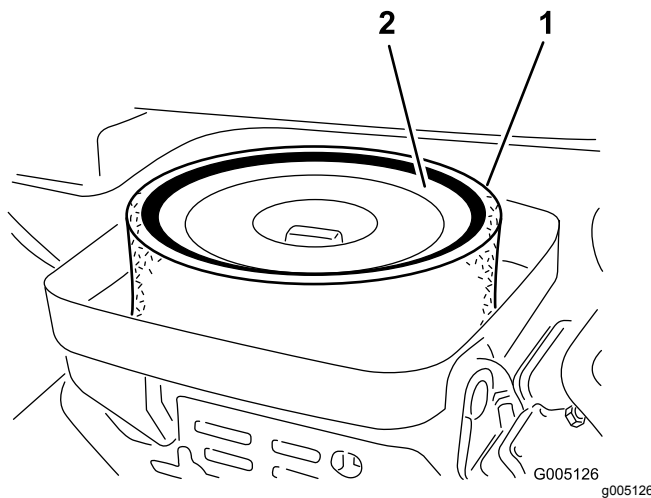

Figure 41
3. Remove the wing nut securing the elements to the air-cleaner body (Figure 41).
4. If the foam element is dirty, remove it from the paper element (Figure 41). Clean it thoroughly, as follows: